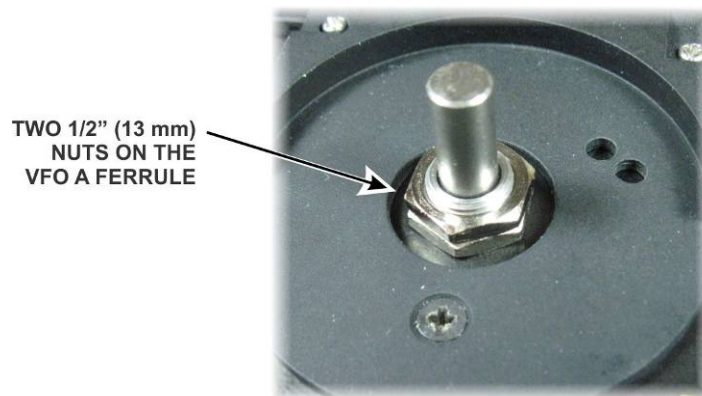

Figure 17. Second Nut on the VFO A Ferrule.
- Place a second nut on the VFO A threaded ferrule and tighten it against the nut you installed earlier (see Figure 17).